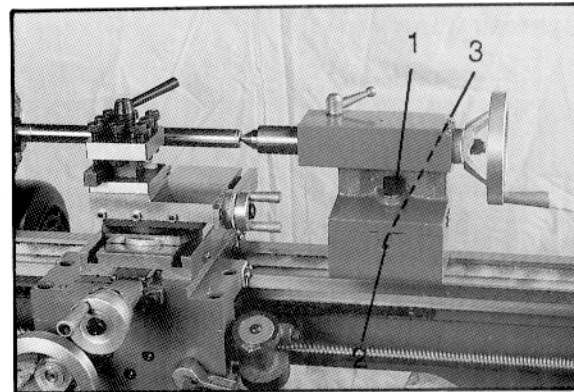

Fig. 17
Work to a side angle of 5° can be turned by off-setting the tailstock. The angle depends on the length of the workpiece. (Fig. 17)
To off-set the tailstock, loosen locking screw (1, Fig. 17). Loosen the front adjusting screw (2) and take up the same amount by tightening the rear adjusting screw (3) until the desired taper has been reached. Tighten the front screw to lock the tailstock in position. The workpiece must be held between two centers and driven by a face plate and driver dog.